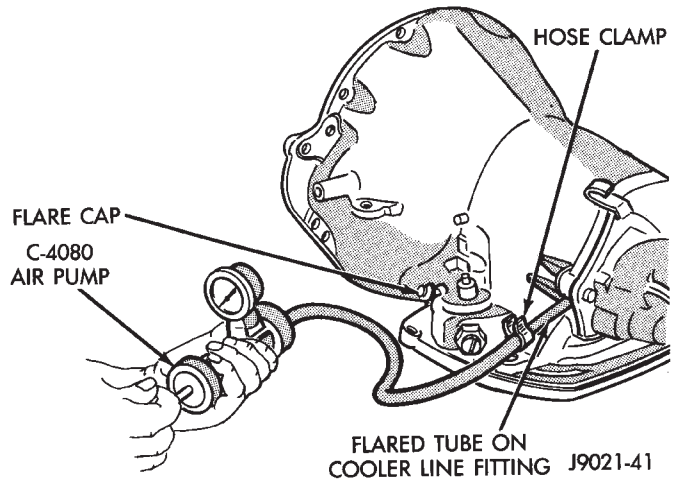

Fig. 16 Pressurizing Transmission
- (3) Attach Air Pump 7700 to rear cooler line fitting. Connect length of copper tube to fitting. Then attach air pump hose to tube with hose clamp (Fig. 16).
(4) Apply thick soapy water solution to suspected leak areas.